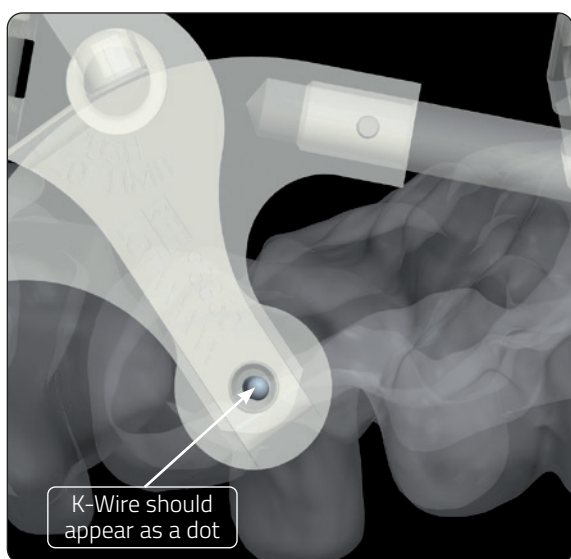

**Fig. 12**
- If necessary a  $\varnothing$  1.5mm K-wire can be used to assist in aligning the fixator with the center of rotation of the wrist joint, which is located within the head of the capitate1 in both flexion and extension, and radial and Ulnar deviation (**Fig. 12**)